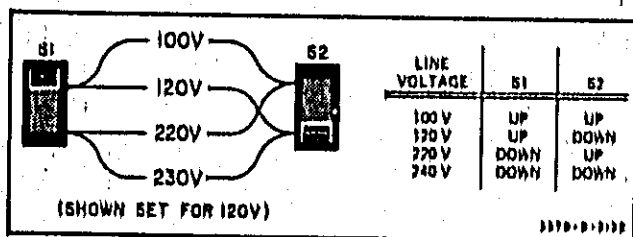

Figure 3-23. Line Selector Switches.
- b. Refer to Figure 3-23. Set the rear panel Line Selector switches to the setting (100, 120, 220 or 240) that corresponds with the line voltage to be used. Line voltage must be within $\pm 10\%$ to $\pm 5\%$ of the selected voltage setting. Line frequency must be within the range of 48 Hz to 66 Hz.